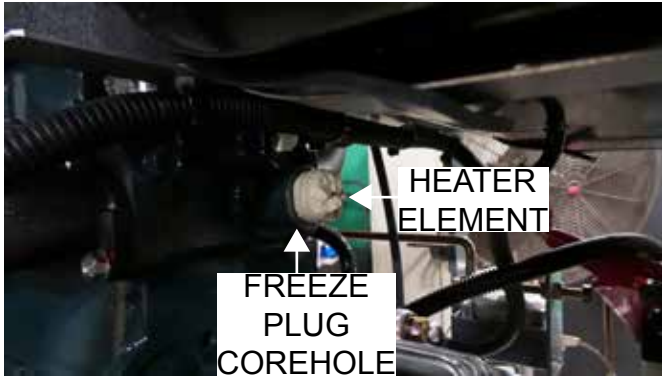

Figure 10. Installed Heater Element
2. Align and insert the heater element's heater side (non-tape masked) into the freeze plug corehole as shown in Figure 10.